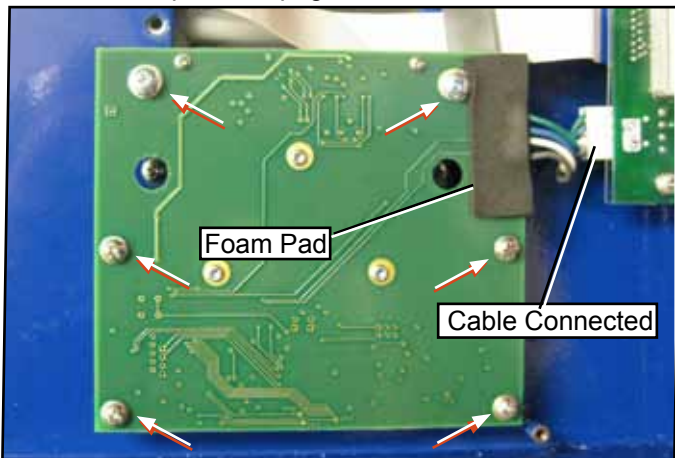

Figure 6: Printer Circuit Board Installed
12. Attach the 6 screws for the thermal printer board to the front door (Figure 6). Refer to the screw chart on the previous page.
13. Connect the cable from the thermal printer board to the interface board of the front door (Figure 6).